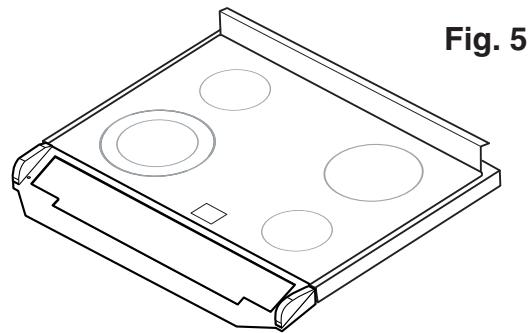

Fig. 5
11. Slide Cook Top forward to unlock from shoulder screws, then remove or reposition (**Fig. 5**).